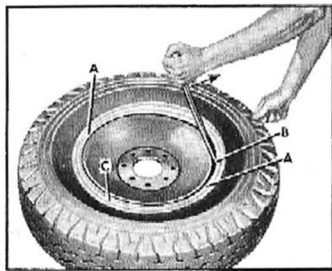

Fig. 75— $\frac{3}{4}$ Ton Tire Installation
6. Place the retainer ring on the wheel rim and start the side of the ring opposite the square notch into the rim gutter, at "C" (fig. 75) making sure the two cutaway portions of the ring rest on the sides of the wheel at "A". Hold the first portion of the ring in the rim gutter and pry the remaining portion over the wheel rim. To pry the last portion into place, insert the tire iron in the notch "B", thus putting tension on the ring, and tap the ring with a hammer until it drops into place.